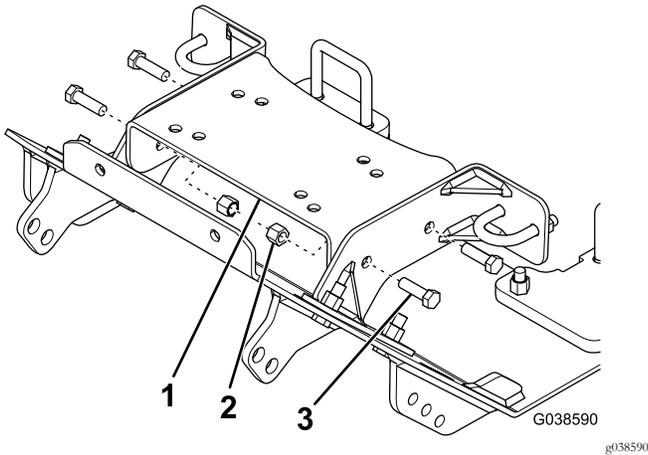

Figure 3
- Secure the top plate to the side brackets using 4 bolts (3/8 inch) and 4 locknuts (3/8 inch) as shown in Figure 3.